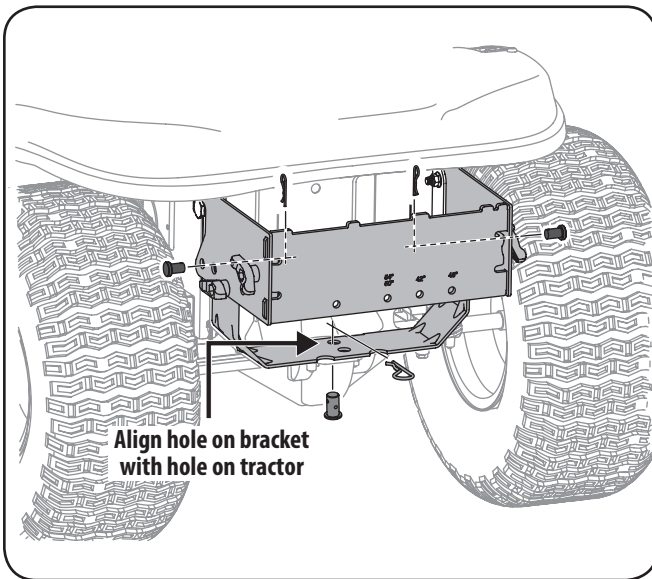

**Figure 3-6**
2. Install the (711-0309A) clevis pin, included in hardware pack 689-00328A, into the tractor's hitch and secure with a (714-0117) clip pin from the same hardware pack. See Figure 3-6.